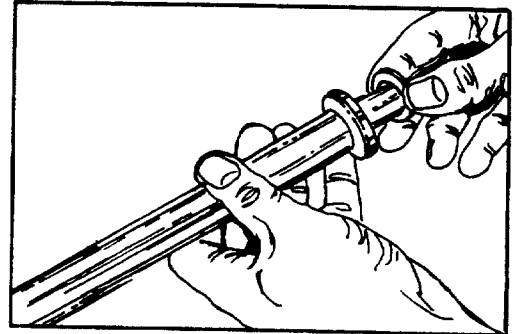

FIGURE 48.
4. Apply a small amount of grease to the recessed face of retainer plate (36) and to washer (35). If the input shaft/wheel tube (33) is 3/4 inch (19 mm) diameter with no contact ring assembly (43), place the retainer plate into the upper cover and jacket assembly (37) with recessed retainer face out. Place washer (35) against recessed face of retainer plate.
If input shaft/wheel tube (33) is 7/8 inch (22 mm) diameter on the hand wheel end or has a contact ring assembly (43), slide the retainer plate (36) then the washer (35) onto the retaining ring groove end of the input shaft/wheel tube, past the ring groove. The recessed face of the retaining plate must be toward the washer. See figure 48.